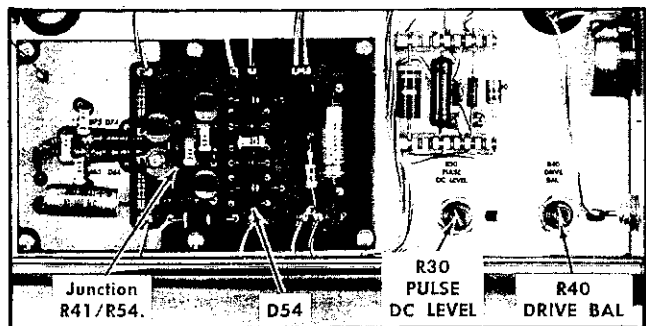

Fig. 5-2. Left side of Type TU-7 showing calibration adjustments and test points.
- a. Set the ohmmeter to the 1-ohm scale and check the in-circuit resistance across D54 for approximately 5 ohms in one direction; infinite in the other direction. See Fig. 5-2 for location of D54.
- d. Adjust DRIVE BAL R40 (see Fig. 5-2) if the amplitudes are not equal.
- a. Connect the dc voltmeter between chassis ground and the junction of R54 and R41 (see Fig. 5-2).